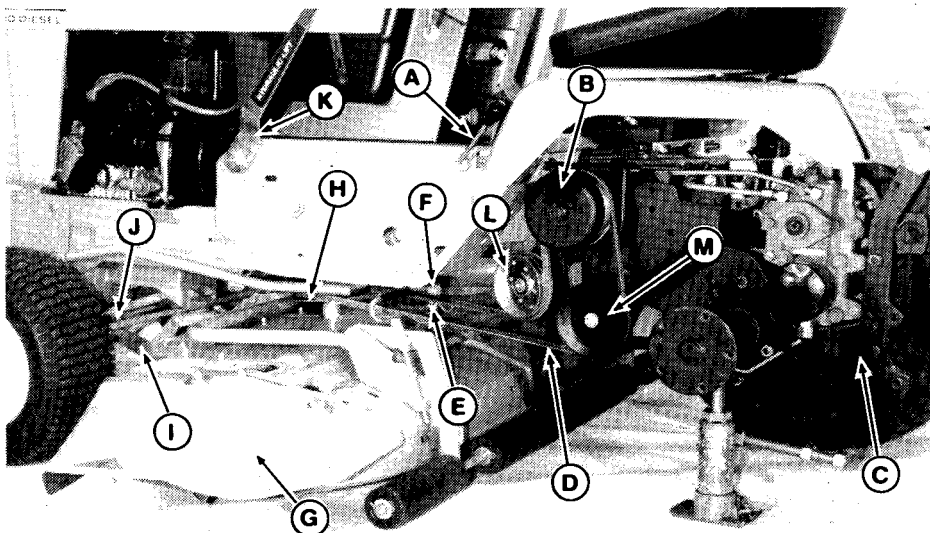
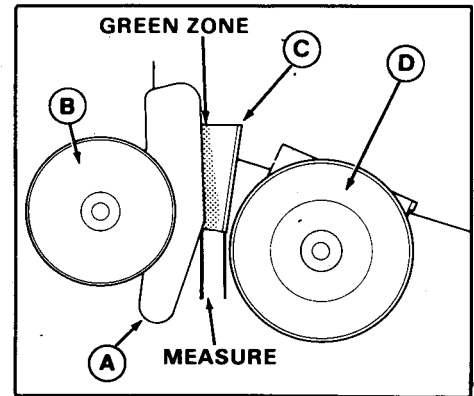

Figure 24A. Mower Installation
Figure 25. Belt Adjustment
2. Make sure the front idler pulley (L, figure 24A) is installed in top mounting tab for mower installation.
8. Push the belt tensioning lever (C, figure 24A) fully down and forward.
10. Install the mower drive belt provided on the mower pulley and the tractor pulleys. The belt must be seated in the inner groove of the drive pulley (B). Make sure that flat side of the belt contacts the front idler pulley (L).
12. Pull the belt tensioning lever (C, figure 24) up to tighten the belt. If the belt is new the rear edge of the idler bracket (A, figure 25) should be aligned with the front edge of the green zone shown in figure 25. The distance between idler bracket (A) and stop (C) will be approximately 1-3/16 inch (30 mm).
If the belt has been used before, the rear edge of the idler bracket (A, figure 25) should be in the middle of the green zone shown in figure 25. The distance between idler bracket (A) and stop (C) will be approximately 7/8 inch (22 mm).
13. Push the belt tensioning lever down to release belt tension. Loosen the nut that secures the rear idler pulley (D, figure 25) in the slot. To move the idler bracket (A) forward, move rear idler pulley (D) toward rear. To move the idler bracket (A) toward rear, move the
and disengage the PTO. Check position of idler bracket (A, figure 25). If the rear edge of idler bracket is in middle of green zone, the belt adjustment is acceptable. If not, readjust the belt as described in step 13.
2. Push the belt tension lever, (C, figure 24A) fully down and forward to release mower belt tension.
3. Raise the tractor seat deck and remove the mower drive belt from the mower and tractor pulleys (see figure 24A). Close the tractor seat deck.